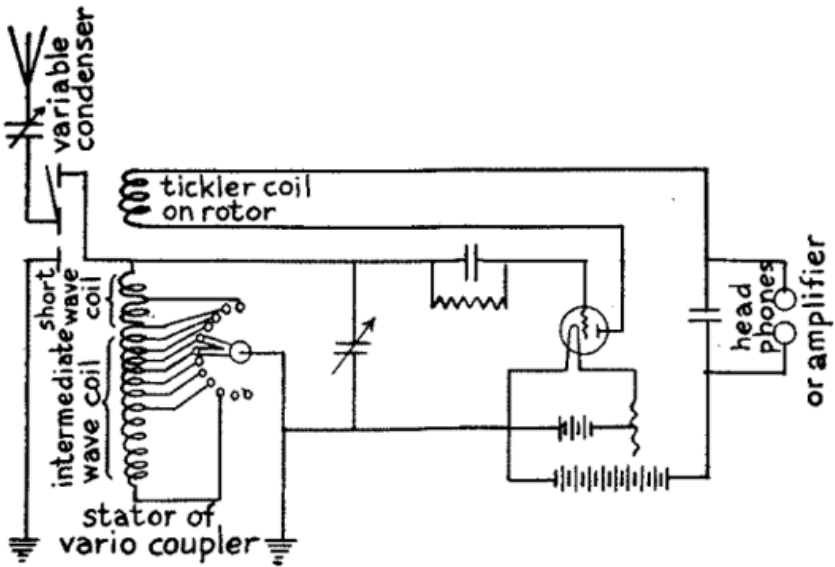

FIG. 58.—Wiring Diagram for Intermediate Wave Receiver with one Variocoupler and 12 section Bank-wound Inductance Coil.
multi-point inductance coil is shown in Fig. 58. You can buy this intermediate wave set assembled and ready to use or get the parts and connect them up yourself.
The Parts and How to Connect Them Up.—For this regenerative intermediate wave set get: (1) one 12 section triple bank-wound inductance coil, (2) one variometer, and (3) all the other parts shown in the diagram Fig. 58 except the variocoupler. First connect the free end of the condenser in the aerial to one of the terminals of the stator of the variocoupler; then connect the other terminal of the stator with one of the ends of the bank-wound inductance coil and connect the movable contact of this with the ground.